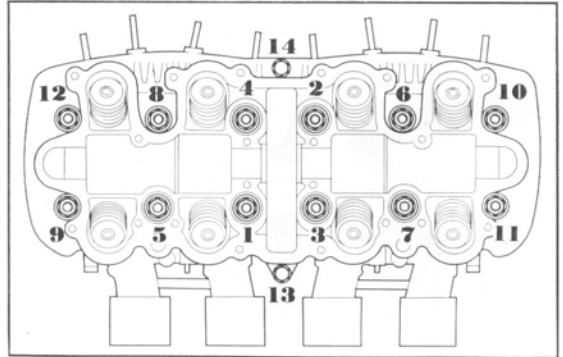

Fig. 83
11. Tighten the twelve 8 mm nuts uniformly with the special tool (Tool No. 07906-3230000) to a torque of **2.0~2.2 kg-m**. (**14.46~16.63 ft-lbs**) in the sequence shown in Fig. 83.